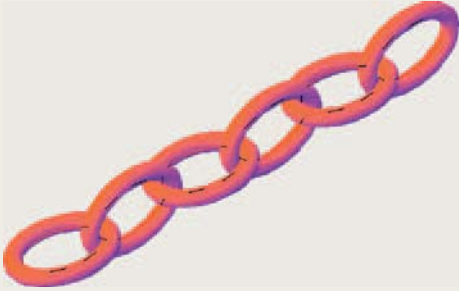

Fig. 13.15 Exercise 3
- Each link of the chain shown in Fig. 13.15 has been constructed using the tool **Extrude** and extruding a small circle along an elliptical path. Copies of the link were then made, half of which were rotated in a **Right** view and